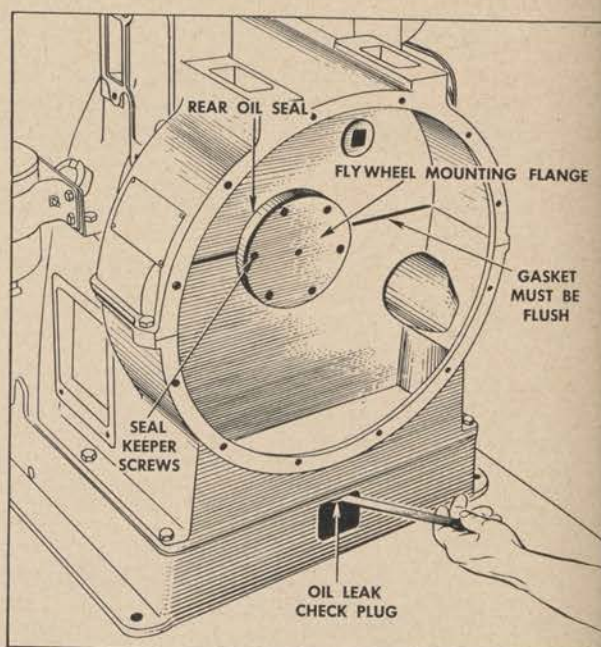

Figure 289. Flywheel housing with generator removed.
a. GENERAL. During shipment of the auxiliary Diesel generator set, or if the barge is subjected to extreme vibration, sufficient displacement may occur between the engine flywheel housing and generator frame to cause distortion or damage to the rear oil seal and result in oil leaking through to the generator unit. Check for oil leakage every week by removing the plug at the rear of the engine below the flywheel housing. Figure 289 illustrates removal of the plug for checking with the generator unit off. Do not remove the generator for the sole purpose of making this check. The oil seal must be replaced on evidence of oil leakage.
engine crankshaft until the six tapped holes in the flywheel mounting flange (fig. 289) coincide with the screws in back of the holes. This position will be with two opposite holes in perpendicular position to the center of the shaft. The screw heads visible through the holes in the flange are those holding the oil seal cover in place.